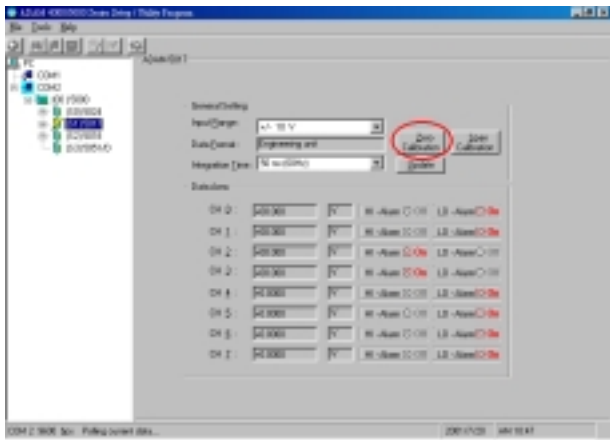

Figure 5-7: Zero Calibration
- (1). Apply power to the module and let it warm up for about 30 minutes.
- (2). Make sure that the module is correctly installed and is properly configured for the input range you want to calibrate.
- (3). Use a precision voltage source to apply a calibration voltage to the modules’ terminals of the specific channel.
- (4). Click the “Zero Calibration” button. See Figure 5-7